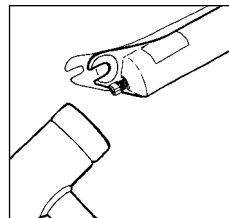

Fig. 5
3. Partially loosen shaft bolts with a 6 or 8mm hex wrench, tap bolts firmly with a mallet breaking shafts free from lower tube, and remove bolts completely. (See Fig. 5)